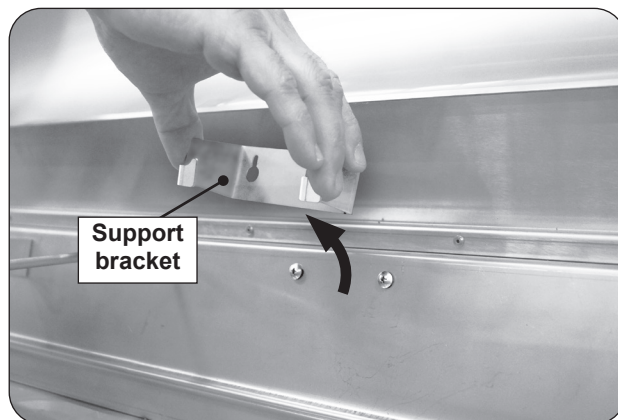

Fig. 33-1 Remove element support bracket
2. Locate the rear heating element support bracket and slightly loosen the two screws. Detach and remove the bracket by sliding it upward. See Fig. 33-1.